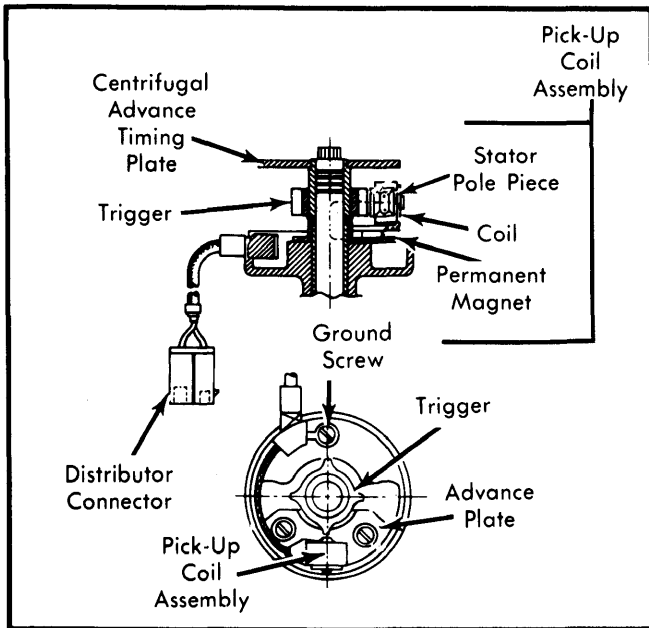

Fig. 7 Interior View of Marelli Distributor
2) Pick-up coil resistance should be 700-800 ohms. If not, replace pick-up coil assembly. If system works intermittently, be sure pick-up coil wire in distributor is properly grounded. See Fig. 7.